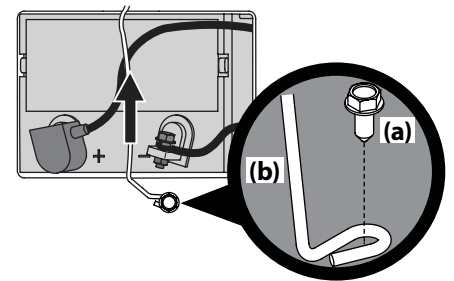

Figure 4-10
1. Remove the hex washer screw (a) securing the battery hold-down bracket (b) to the frame. Then flip the battery hold-down bracket (b) up to free the battery. See Figure 4-10.